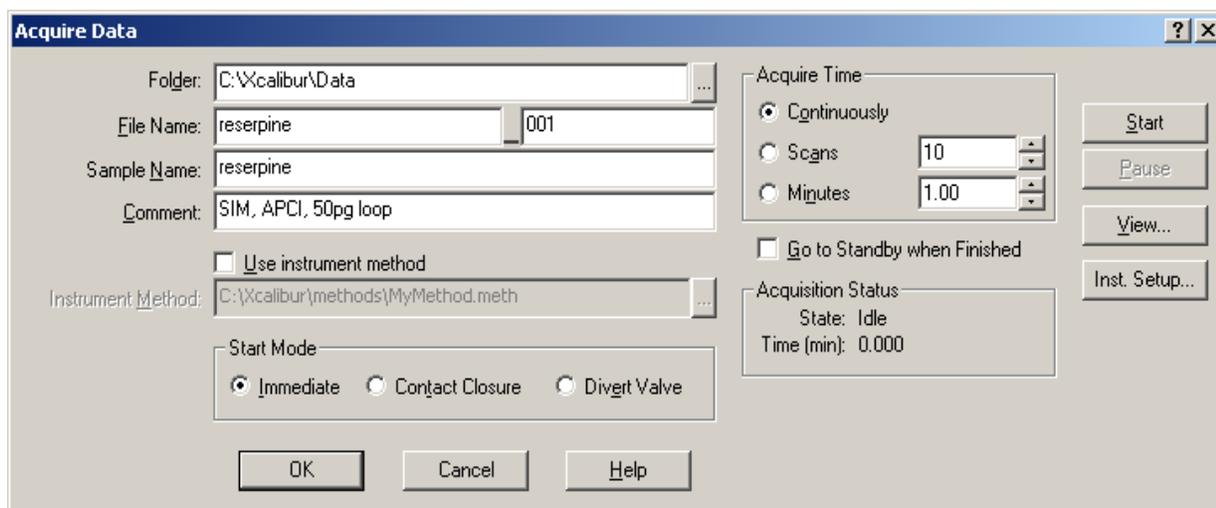

Figure 46. Acquire Data dialog box, showing typical settings for acquiring data
5. On the Control/Scan Mode toolbar, click **Acquire Data** to open the Acquire Data dialog box. See Figure 46.